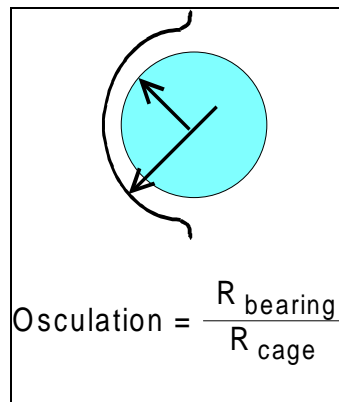

Figure 2. Osculation of bearing (R = Radius)
- A. Osculation: two levels of the ratio of the ball radius to the radius of the outer ring raceway. (See Figure 2.)